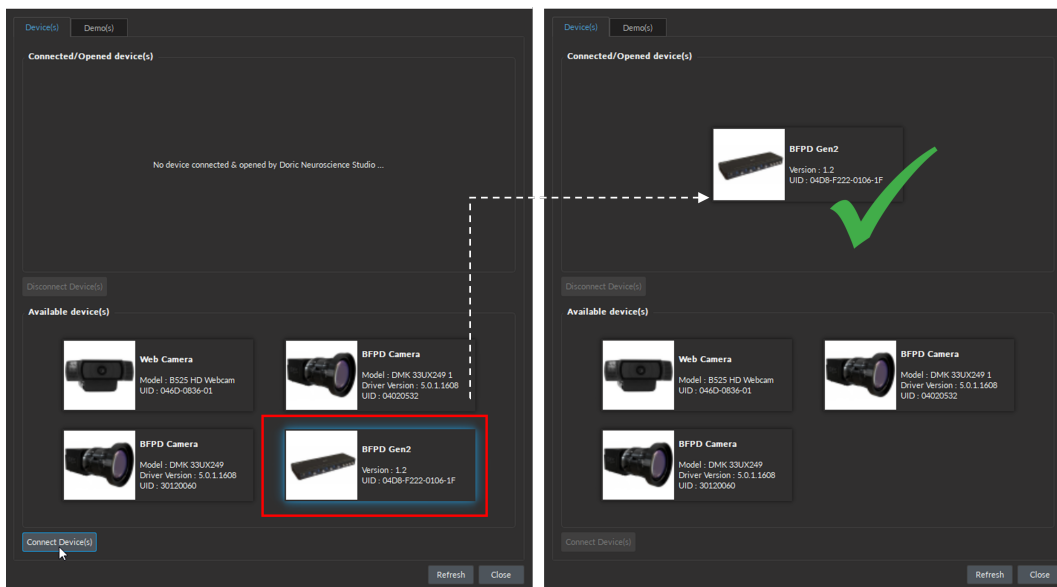

Figure 1.3: Double click on the device of choice to connect it to DNS
2. Once DNS is opened, the **Device Selection** window should automatically pop up. Here, you should see the console (NC500, BBC300 or BFMC-G3), and at least one BFPD camera(s). Select your console then click **Connect Device**. Once connected, close the window (as in Fig. 1.3).